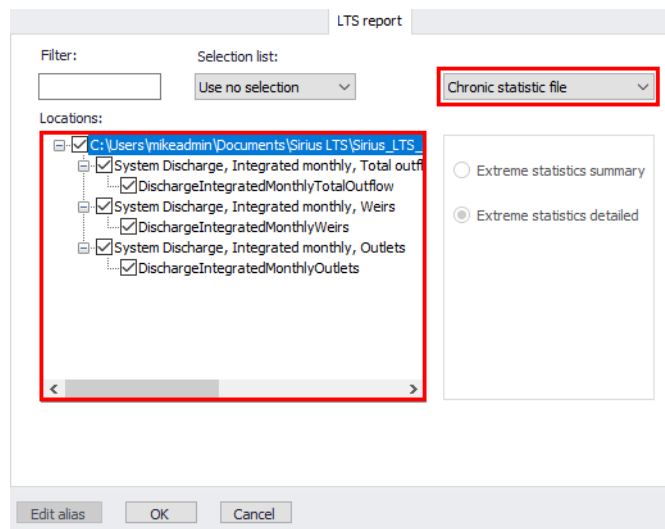

Figure 20.72 LTS chronological statistics report configuration
- Access the ‘LTS Report’ tab on the ‘Result Items’ dialog (Figure 20.72).
- Choose to generate a report with the ‘Chronological statistics file’ from the dropdown menu on the upper right side of the page (Figure 20.72).
- Select the items which shall be included in the report (Figure 20.72). Note that relevant items are offered on the Locations panel only if the appropriate LTS result file has been activated for the result document creation.